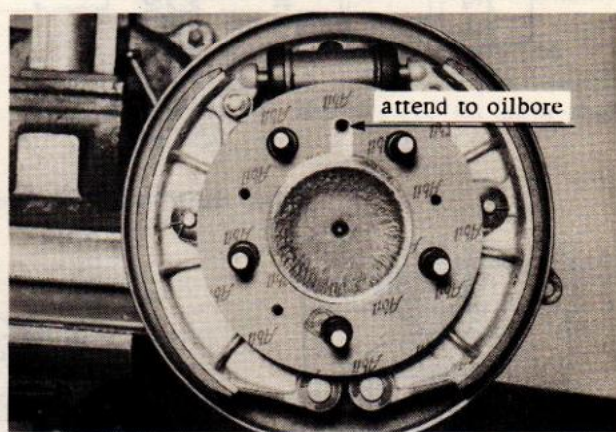

Fig.42
- 6. Stick gasket 055 082 17 00 to flange of half-shaft ensuring that the oil hole is correctly positioned (Fig. 42). Fit brake drum on half-shaft flange.